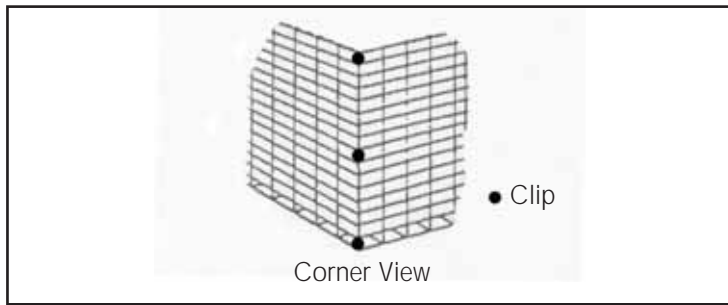

Figure 5
3. Raise two panels so that they meet at the corner. Fasten clips at each ● shown in Figure 5. Repeat for the other corners.